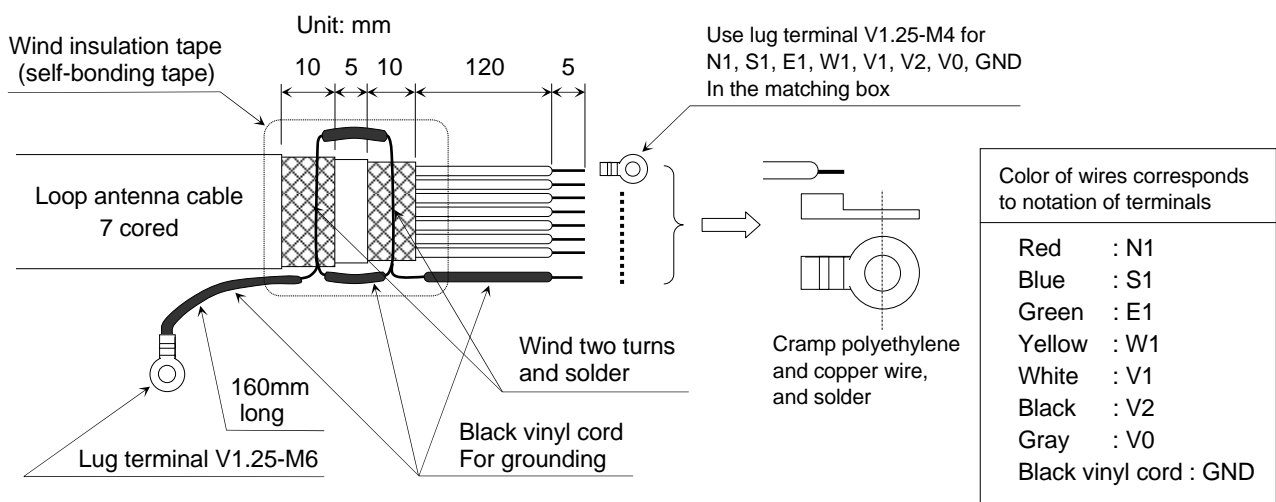

Fig. 3-5 Preparation to connect cable for loop antenna
- (1) Prepare cable as shown in Fig. 3-5 when necessary.
- (2) Use heavy duty soldering iron to solder quickly so as not to melt polyethylene.
- (3) Black vinyl cord is heat-durable. Remove vinyl as long as necessary. Twist well and wind twice around armor. Then, solder it.
- (4) Test insulation after preparation. Insulation to ground should be higher than 50kΩ.